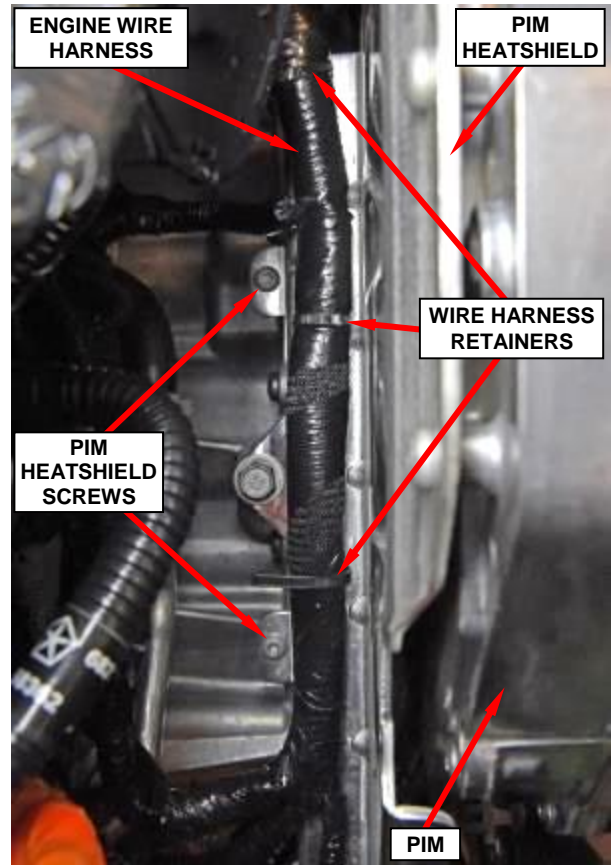

Figure 30 – Engine Wire Harness
- 56. Disengage the three retainers securing the engine wire harness to the PIM heatshield then reposition the engine wire harness (Figure 30).
- 57. Remove and save the four screws from the PIM heatshield then remove and save the PIM heatshield (Figures 30 and 31).
7. Install the PIM heatshield with four screws. Tighten the screws to 11 N·m (97 In. Lbs.) (Figures 30 and 31).
8. Position the engine wire harness and engage the three wire harness retainers to the PIM heatshield (Figure 30). **New** wire harness retainers are supplied with the PIM kit to replace any damaged retainers.